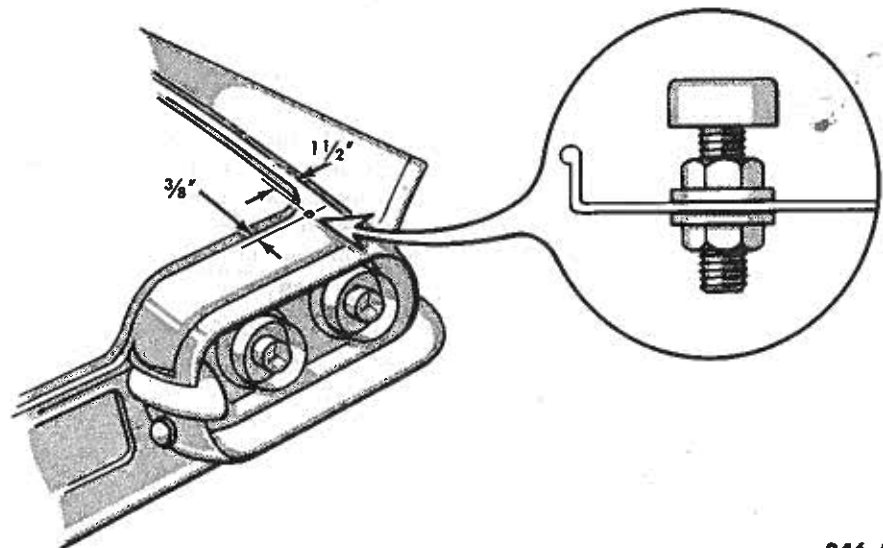

Fig. 2 - Deck Lid Bumper Installation (Item 10)
1. Remove the trim panels from the rear surface of the luggage compartment. Locate and drill a 3/8" diameter hole at each rear corner as shown in Fig. 2.
2. Install an adjustable rubber bumper (B5A-16769-A) with a flat-washer on both sides of the sheet metal and secure each of the bumpers in place with the two hex-head nuts (Fig. 2).